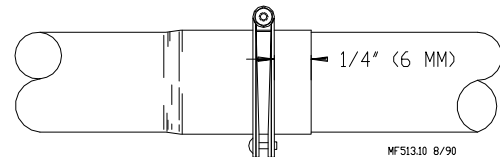

Figure 33. Clamp Installation
Continue down the entire length of the feeder line so that every joint is secured with a standard Clamp or Clamp/Anti-Roost Bracket. Figure 33 shows the proper clamp location on the tube joint. Do not tighten the clamp at this time.
- make sure the clamps are located, as shown in Figure 33.